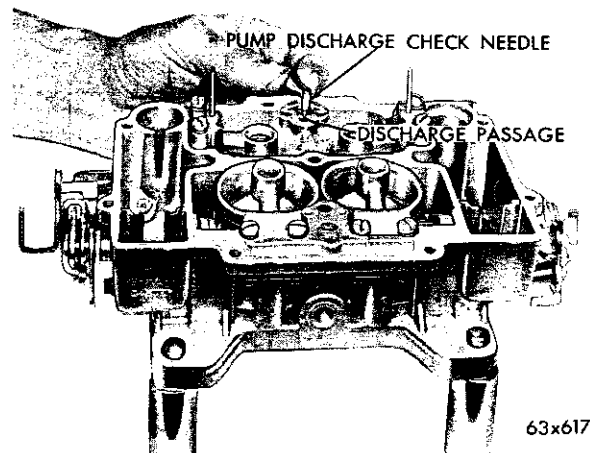

Fig. 70—Installing the Pump Discharge Check Needle
(2) Install the accelerator pump discharge check needle in the discharge passage, as shown in Figure 70. Raise the pump plunger and press lightly on the plunger shaft to expel air from the pump passage.